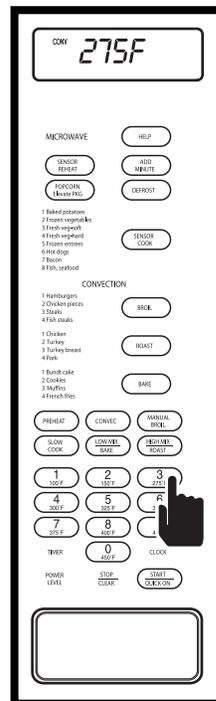

Figure 3-87.
3. To change temperature, press the number 3 key, “275F - PRESS - START” will flash on display. (See Figure 3-87)